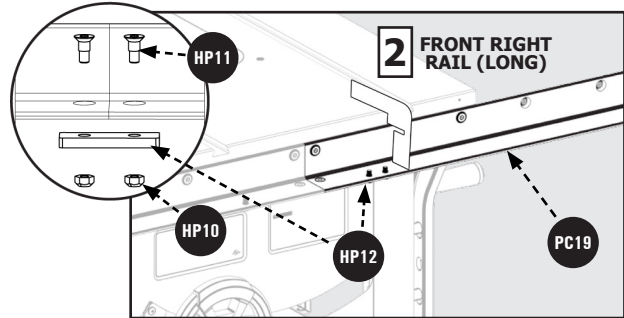

Figure 6
2. Attach the Rail Union Plate **HP12** using (2) M5 x 16mm Flat Countersunk Hex Shoulder Screw **HP11** and (2) M5 Nylock Nuts **HP10** in the two holes where the Rail Sections meet, see Figure 6.